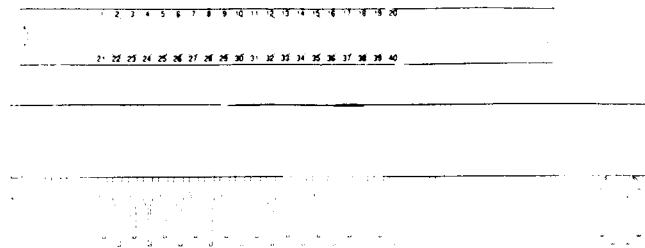

Fig. 8—927A or D Connector
- (a) **927A:** The 927A connector (Fig. 8) is equipped with 40 spring terminals in positions 1 through 40. The wiring ends of the terminals are arranged for two mechanically wrapped connections of 24-gauge wire. This connector is used in the 303 data sets.
- (d) **927D:** The 927D connector (Fig. 8) is equipped with 20 spring terminals in one row in positions 1 through 20 that are arranged for two mechanically wrapped connections of 24-gauge wire. This connector is used in the 403D data sets and 809B data auxiliary sets.